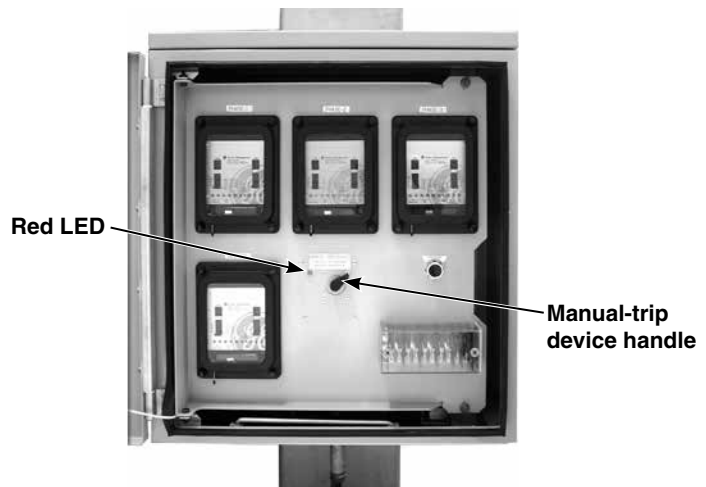

Figure 86. Crank the manual-trip device handle 5 to 10 times until the red LED starts flashing.
- Proper condition of the manual-trip device. Crank it 5 to 10 times. Check that the red LED is flashing. See Figure 86.